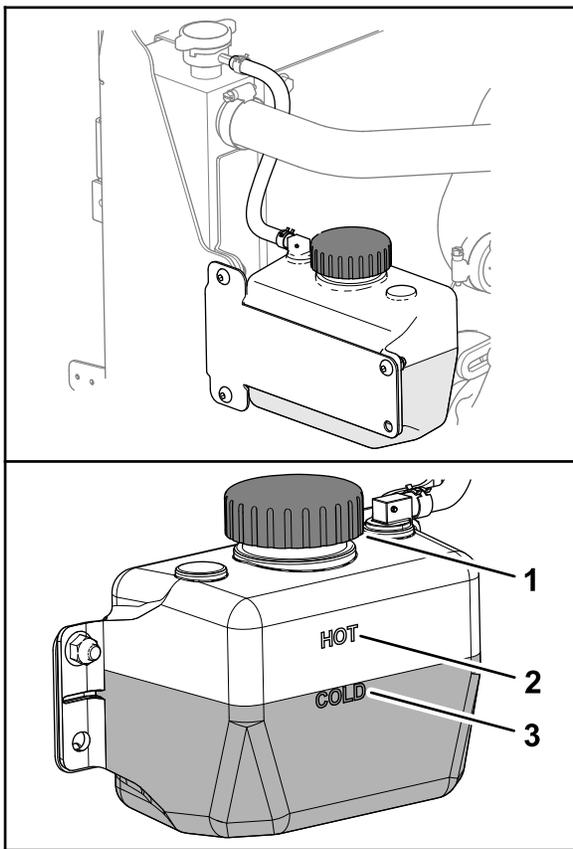

Figure 93
3. Check the level of coolant in the reservoir (Figure 93).